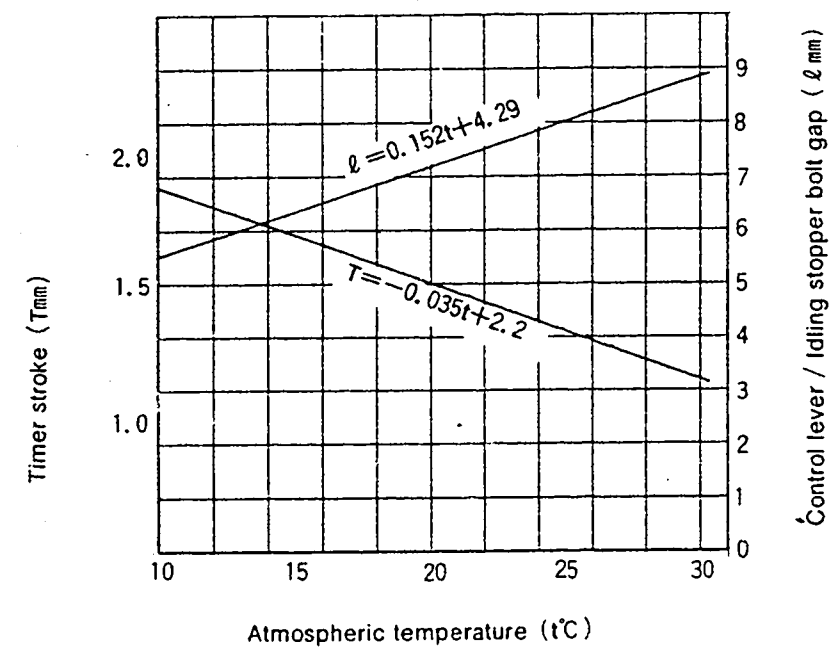

Fig. 2
- ① Using the graph (Fig 2) , determine the Timer Stroke according to the atmospheric temperature at the time of adjustment.
- ② Adjust using the Timer Stroke adjusting bolt so that the Timer Stroke corresponds to the value determined in note ① above.
- ① Insert a block gauge of  $5.3 \pm 0.05$  mm thickness in the gap between the control lever and the idling stopper bolt.
- ② From Fig 2 determine the dimension of the gap between the idling lever pin and the control lever according to the atmospheric temperature at the time of adjustment.
- ③ Adjust using the fast idle adjusting screw so that the gap corresponds to the value determined in note 2) ② above.